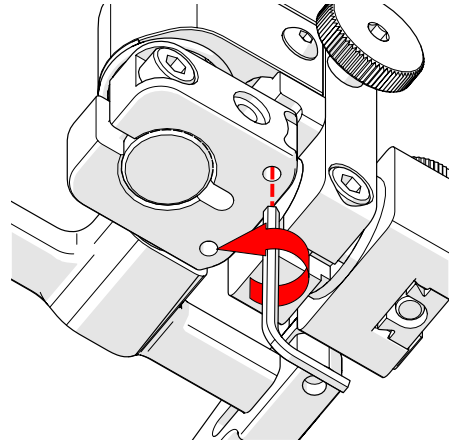

Fig. 98 - Lower 90° stop post
7. Locate the recessed M3 screw (stop post) on the bottom of the probe holder. Unscrew the stop post using a 1.5 mm hex wrench until it has cleared all obstructions. Do not remove stop post (Fig. 98).